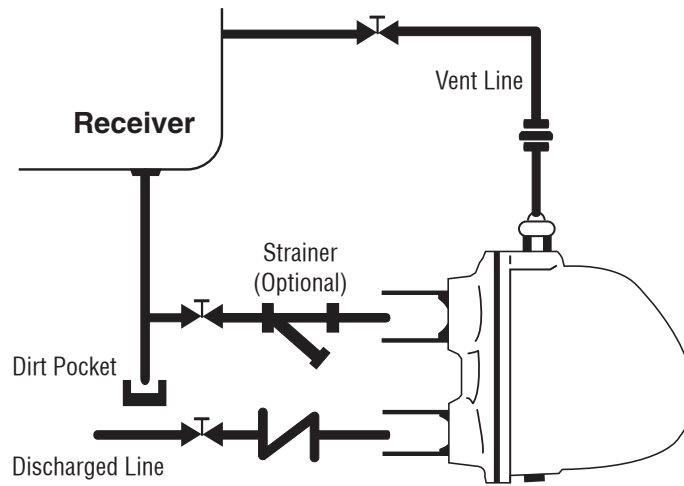

Figure 3
Install the liquid drainer with its inlet connection below the liquid level in the equipment to be drained. Figure 3 shows the recommended piping for a liquid drainer.
- Liquid Drainers must be back vented to avoid air-binding. Do not reduce the pipe size to less than 1" for the back vent. Connect as shown in Figure 3. Use a full ported valve in the back-vent line. Remember that the pressure in the drainer is the same as in the unit drained. Only the difference in liquid levels produces flow. Minimize fittings and length of pipe between the vessel and the drainer.